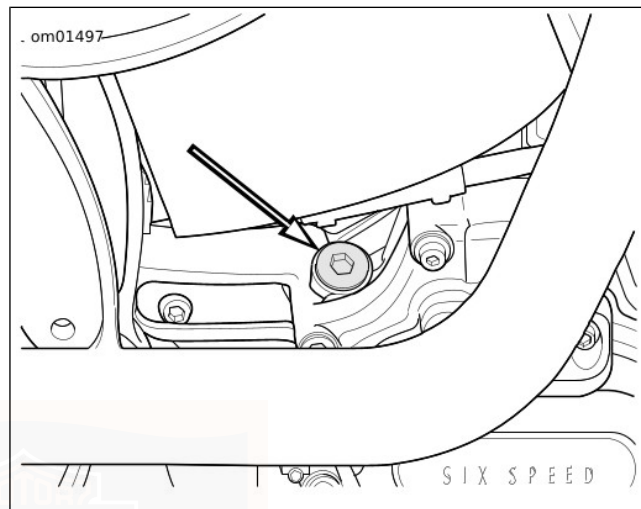

Figure 30. Transmission Filler Plug/Dipstick Location
2. See Figure 30. Remove transmission lubricant dipstick. Wipe dipstick clean.
1. See Figure 30. Remove transmission filler plug/dipstick.